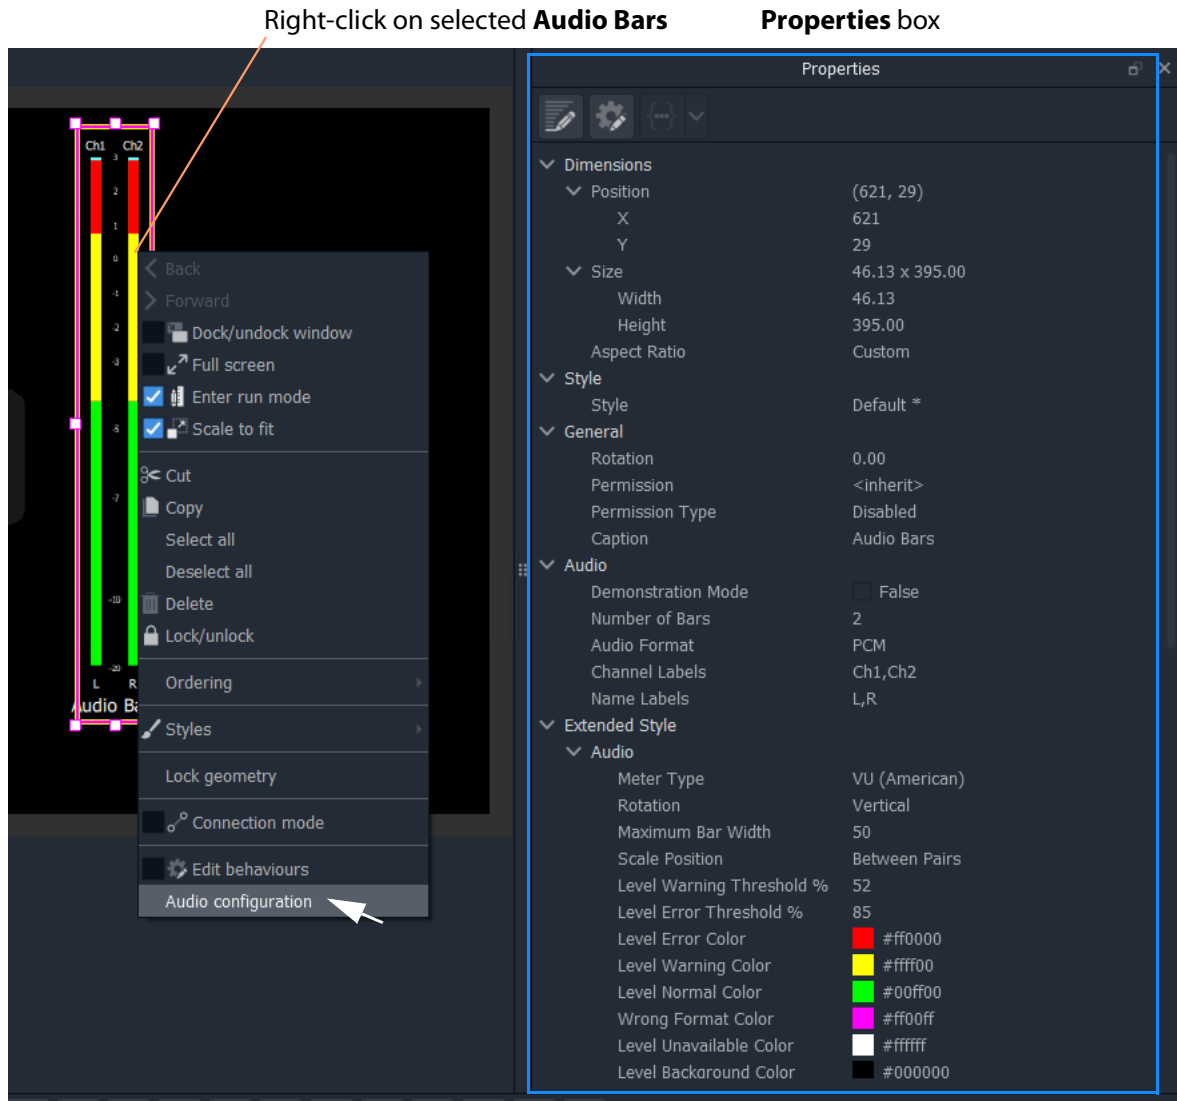

Fig. 10-2: Right-Click on Audio Bars Widget
The **Audio Bars** widget may be set up by selecting the widget in the **Tile Editor** and modifying properties in the **Properties** box. See Figure 10-2.
- 2 Right-click on the widget and select 'Audio Configuration' in the pop-up menu. (See Figure 10-2.)